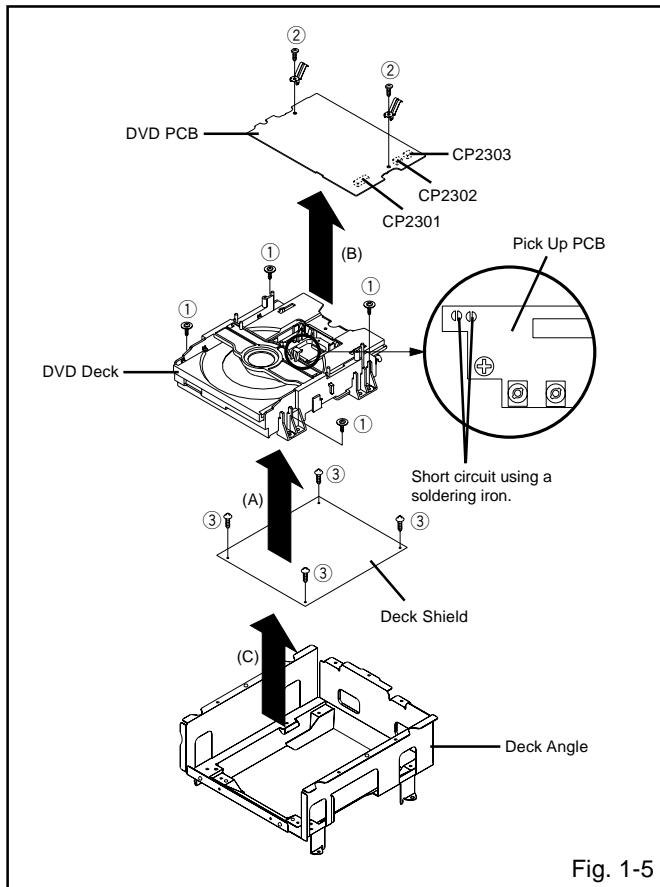

Fig. 1-5
## 1-5: DVD PCB/DVD DECK (Refer to Fig. 1-5)
1. Short circuit the position shown in **Fig. 1-5** using a soldering iron. If you remove the DVD Deck with no soldering, the Laser may be damaged.
2. Remove the 4 screws ①.
3. Remove the DVD Deck in the direction of arrow (A).
5. Remove the 2 screws ②.
6. Remove the DVD PCB in the direction of arrow (B).
7. Remove the 4 screws ③.
8. Remove the Deck Shield in the direction of arrow (C).